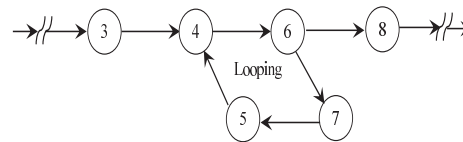

Fig. 1.6: Looping error
2. **Looping (or Cycling)** - Endless loop in a network diagram is known as error of looping as shown in figure 1.6.